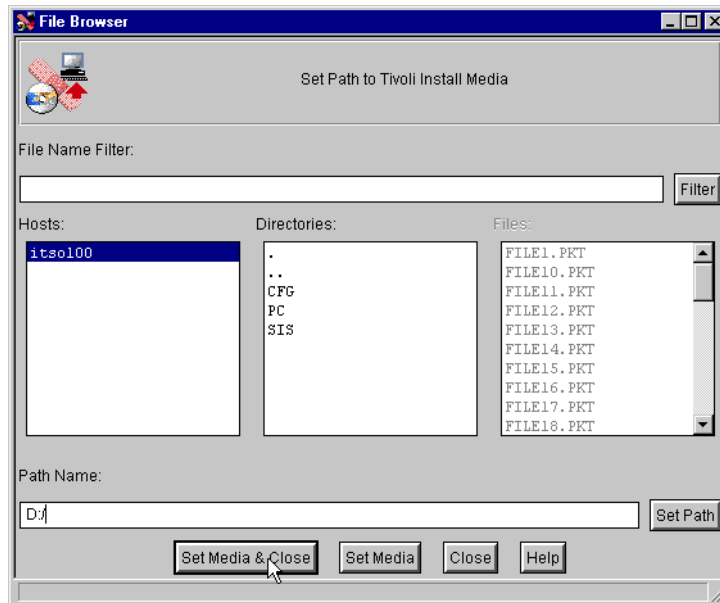

Figure 31. Browse directory
25. Set the directory point to the CD-ROM location as shown in Figure 31 on page 52.